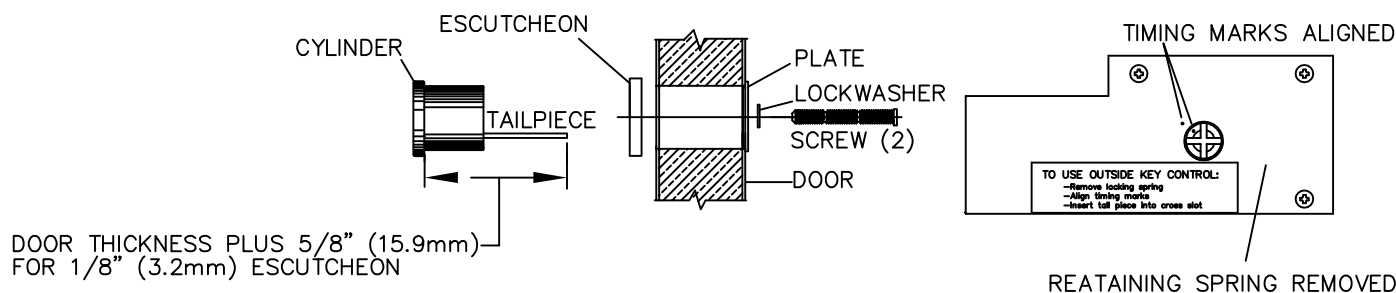

Fig. 3
- B) From the rear side of the casting, confirm the retaining spring was removed (Fig. 3).
- D) Confirm the tailpiece length is 5/8" beyond the door or beyond the reinforcing plate (Fig. 3).
- E) Confirm the index mark alignment (Fig 3).
- G) Retract the bolt, align the index marks, remove key, re-install the lock body (make sure the alignment mark does not move when reinstalling the lock body). Be sure the cylinder tailpiece is engaging the cross slot on the cam (Fig. 3).